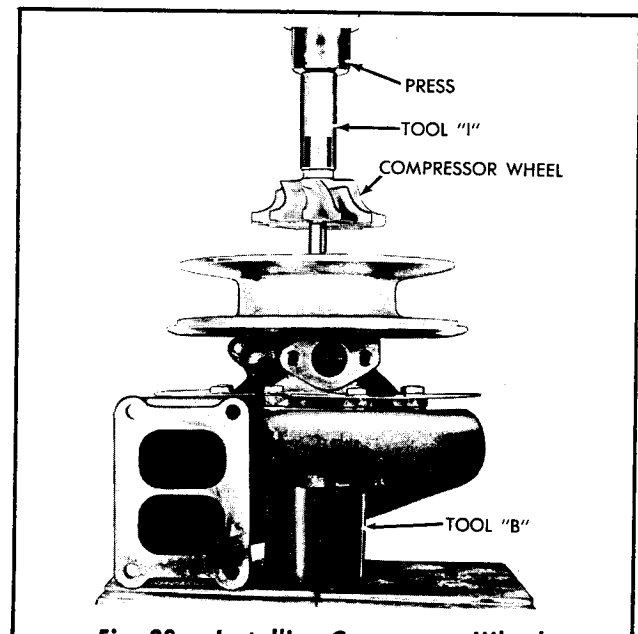

Fig. 28 — Installing Compressor Wheel
- d. Place Tool "B" in arbor press (Fig. 28).